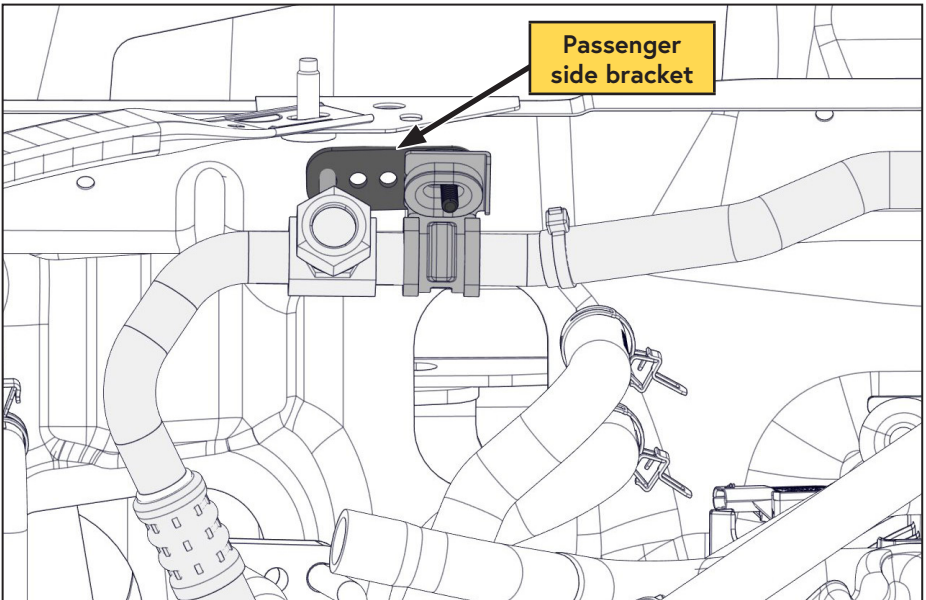

Figure 31 — Passenger side
- ☐ Rotate the passenger side bracket to the 3 o'clock position (Figure 31).